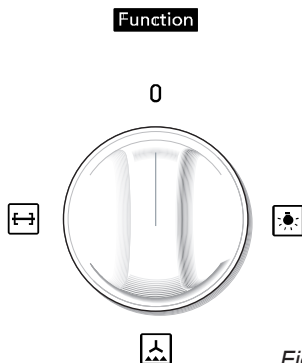

Fig. 2.6
The fan is controlled by a knob (fig. 2.6).
- To operate the fan motor turn the knob indicated in fig. 2.6 to  position.
To light the oven lamp turn the knob indicated in fig. 2.6 or 2.8 to the  position
To operate the rotisserie motor turn the knob indicated in fig. 2.6 or 2.8 to  position.